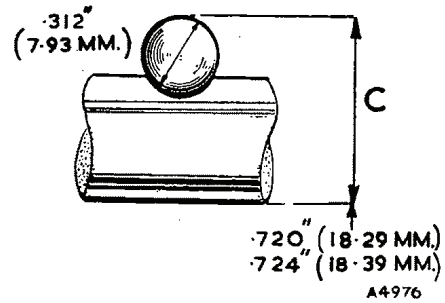

Fig. FF.2
attention to the third speed notch nearest the centre of the rod. It is not intended that the smaller central (neutral position) notch should be included in this check. Measure the diameter of the detent ball, using a micrometer (Fig. FF.2). Place the ball in each of the deeper notches in turn and measure the distance (C) (Fig. FF.2). If this measurement is greater than .724 in. (18.39 mm.) a new fork rod providing dimension (C) in both the third and fourth speed notches should be selected and fitted. The depth of these two detent notches was increased by .018 in. (.46 mm.) on later gearboxes to give the dimension shown in Fig. FF.2.
- (4) Following the procedure given in Section FF.2, remove the third motion shaft (mainshaft) assembly from the gearbox. Remove the top and third gear synchromesh sleeve and hub with its baulk rings. Press down the third speed gear thrust washer locating plunger. Turn the thrust washer to align its splines with those on the shaft and remove the washer. Withdraw the third speed gear and its bronze bush. Withdraw the bush interlocking washer to release the second speed gear with its bronze bush and baulk ring. Check with a micrometer the outside diameter of the bronze bushes. This should be 1.3115 to 1.312 in. (33.308 to 33.321 mm.). Ensure that this dimension is constant throughout the length of each bush. If the bushes are worn fit new phosphor-bronze bushes (Part Nos. 11G3028 and 11G3029). These were reintroduced at Gearbox No. 24001 to replace the sintered bronze bushes used previously.